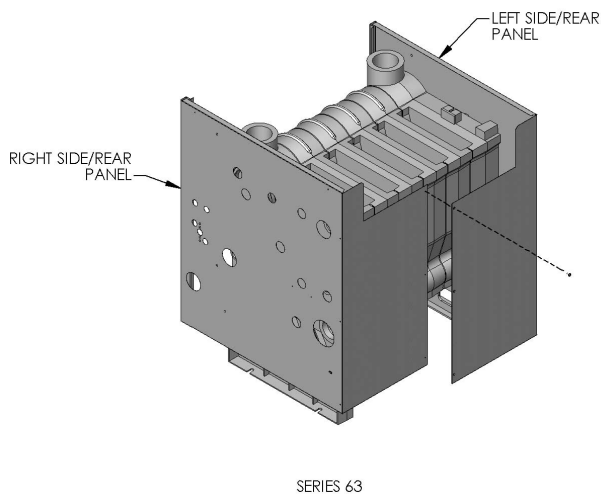

Figure 2.4: Jacket Assembly, Series 63™ Boilers
3. **Wrap-Around Jacket:** Bend the side jacket panels at the perforations to form the back of the jacket. The left side should overlap the right for proper attachment. Connect the two panels with three #10 x 1/2" sheet metal screws. See Figure 2.4.